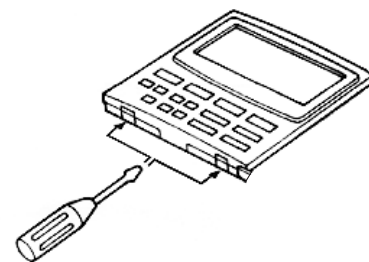

Fig. 3-114
- (1) Remove the cover of the optional wired remote controller. (Fig. 3-114)